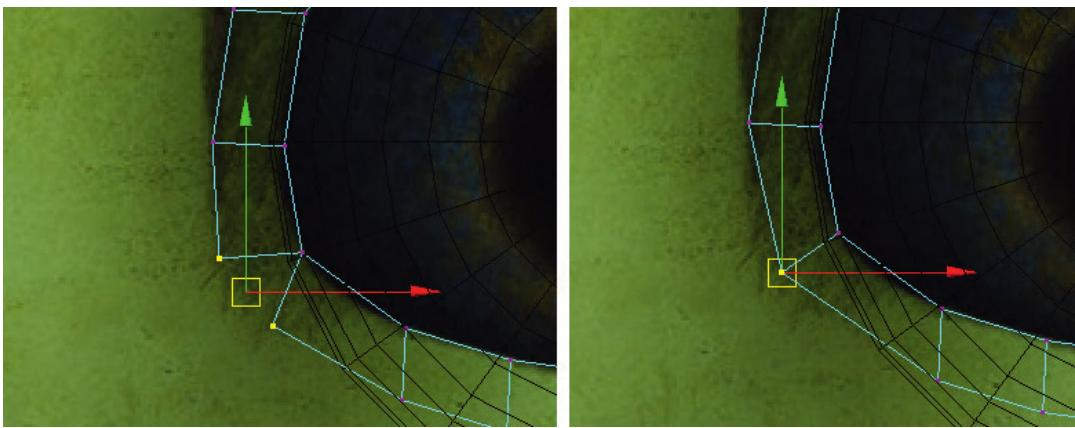

FIG 4.10 Using Merge to Center to combine two vertices into one.
Step 20: Merge pairs of vertices together to close-up the polygon loop. Do this by selecting pairs of vertices (like shown in the left image of Fig. 4.10) and then selecting Polygons>Edit Polygons > Merge to Center. The result will appear like the right image in Fig. 4.10.